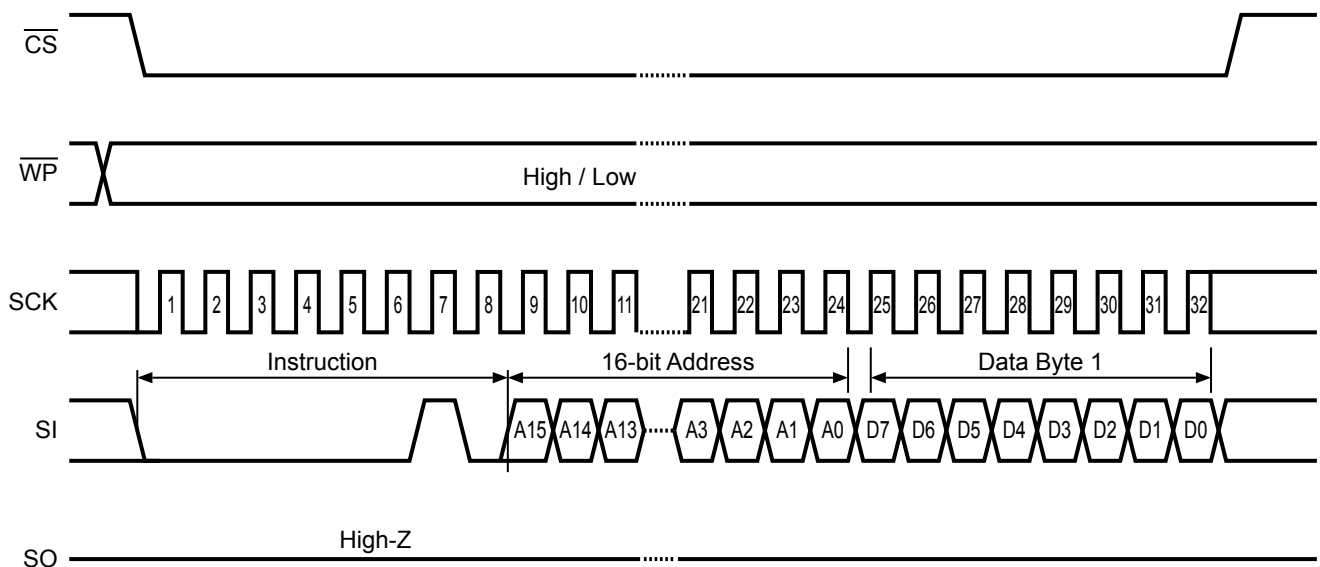

Figure 16 WRITE Operation (1 Byte)
Figure 16 shows the timing chart when inputting 1-byte data. Input the instruction code, the address and data from serial data input (SI) after inputting “L” to the chip select (\overline{CS}). To start WRITE (t_{PR}), set the chip select (\overline{CS}) to “H” after inputting data or before inputting a rising of the next serial clock. Bit WIP and WEL are reset to “0” when Write has completed.